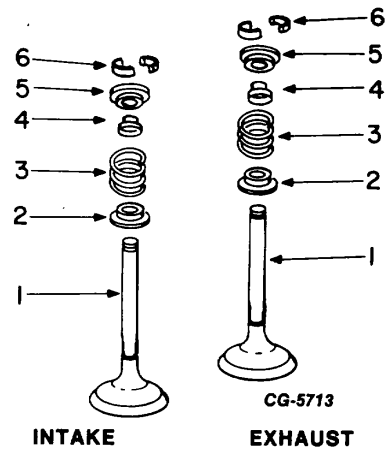

Figure 14. - Valve Components
1. Remove valves (1, Fig.14) with valve spring compressor tool.
- a. Compress valve springs (3).
- b. Remove spring retainer locks (6).
- c. Remove rotators (5) and oil shields (4).